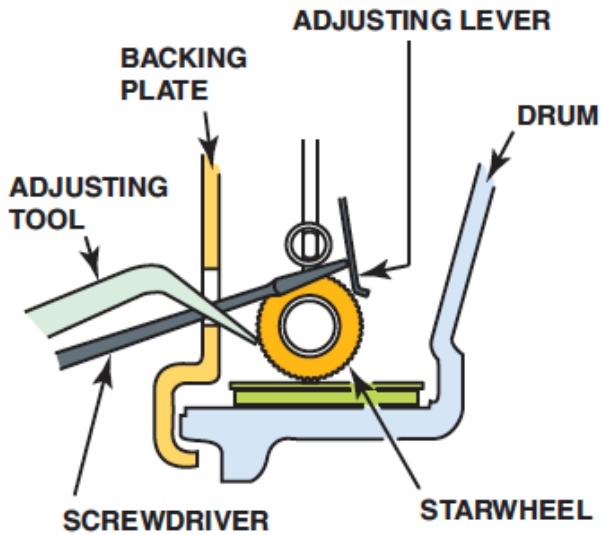

Figure 8. Release the self-adjuster lever and back off the adjuster.
- The brake shoes are worn into the drum. The brake drums cannot be removed because the inner edge of the brake drum catches on the lining. Remove the adjuster plug from the backing plate or drum and back off the adjuster. Figure 8.